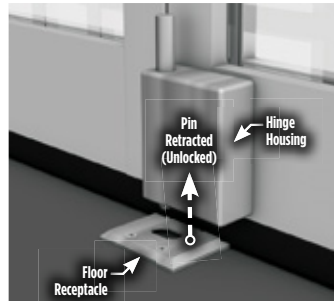

Fig. 13
2. Once the strike panel has been locked into the floor, slide Pass Door panel into position, the hinge vertical side (see Fig. 13 & Fig. 14) should align where the top and bottom pins are over receptacle holes.